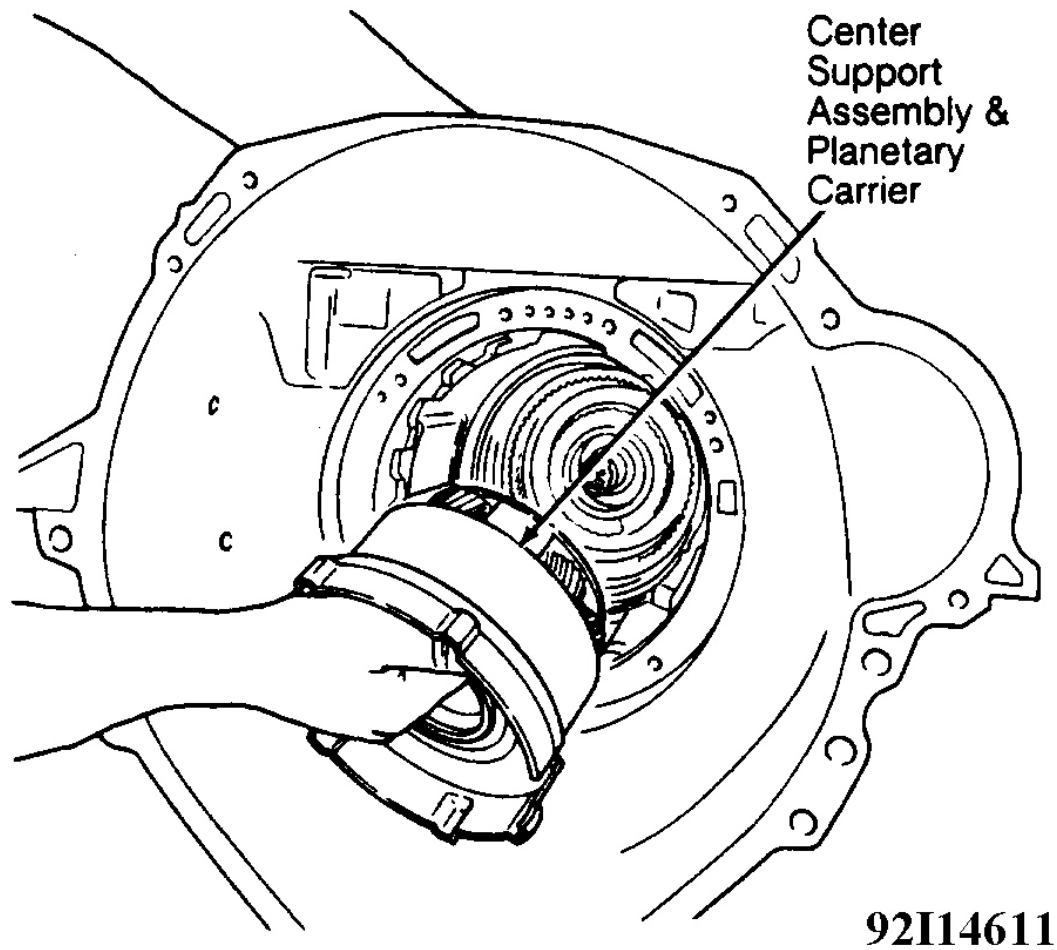

Fig. 28: Removing Center Support & Planetary Carrier
8. Remove center support and planetary carrier from case as an assembly. See **Fig. 28** . Remove reverse band from case. If direct clutch hub did not come out with planetary carrier, remove it from direct clutch.